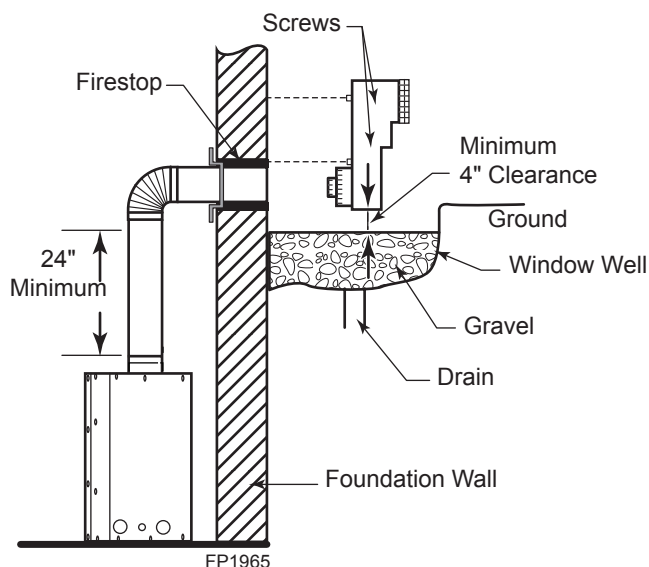

Figure 26 - Below Grade Installation
2. Remove soil to a depth of approximately 16" below base of snorkel. Install drain pipe. Install window well (not supplied). Refill hole with 12" of coarse gravel leaving a clearance of approximately 4" below snorkel. *See Figure 26.*
7. Level the soil so as to maintain a 4" clearance below snorkel. *Figure 26*